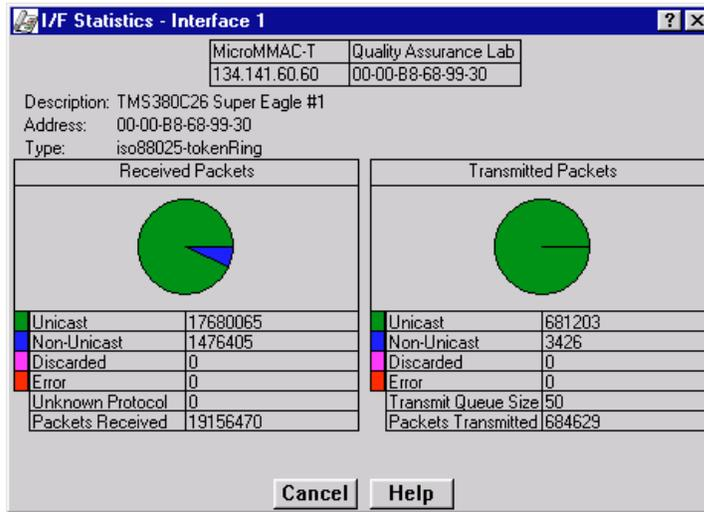

Figure 2-18. Interface Detail Window
2. Click on **Detail**. The appropriate I/F Statistics window, Figure 2-18, will appear.